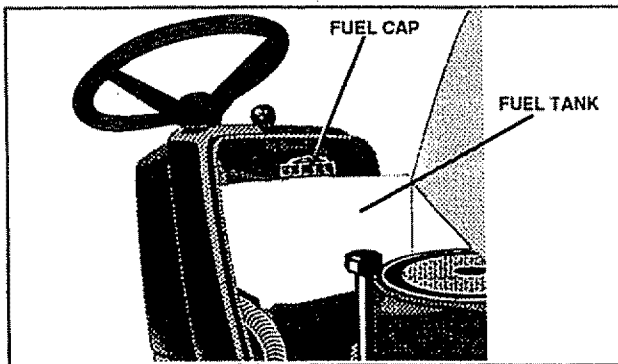

FIG. 8
- Fill tank (see FIG. 8). Use fresh, clean, regular Unleaded gasoline. (Use of leaded gasoline will increase carbon and lead oxide deposits and reduce valve life).